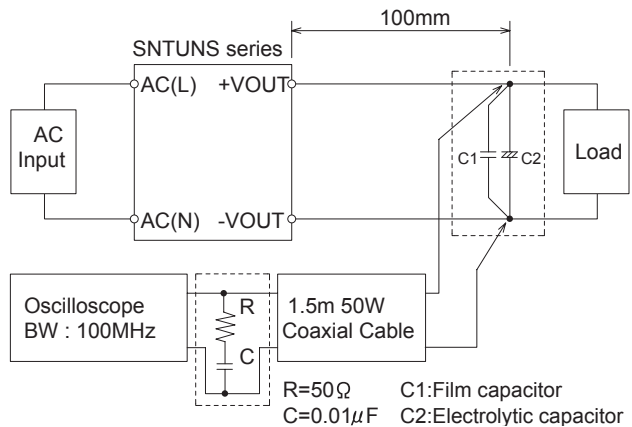

Fig.1.1 Measuring method of Ripple and Ripple Noise
- Output ripple noise may be influenced by measurement environment, measuring method fig 1.1 is recommended.